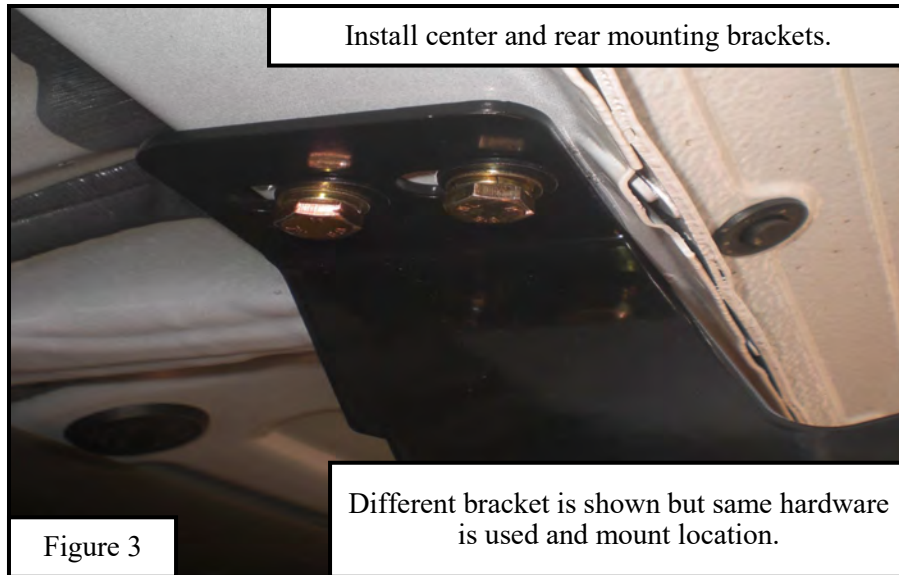

Figure 3
3. Follow the same steps to install the center and rear brackets (**Figure 3**).